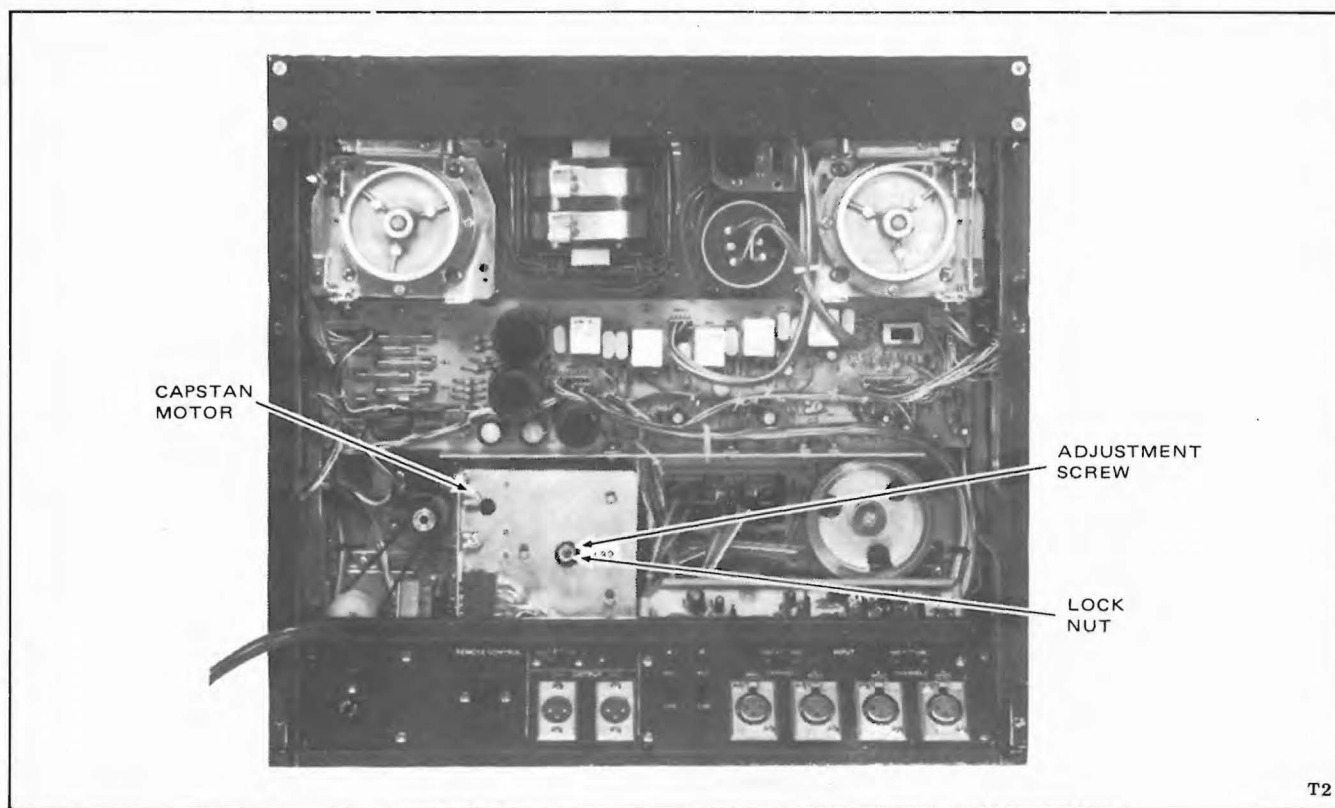

Figure 5-5. Capstan Shaft Tolerance Adjustment
2. If the capstan shaft is binding, locate the capstan motor assembly on the rear of the recorder/reproducer (see Figure 5-5). Loosen the locknut on the adjustment screw.